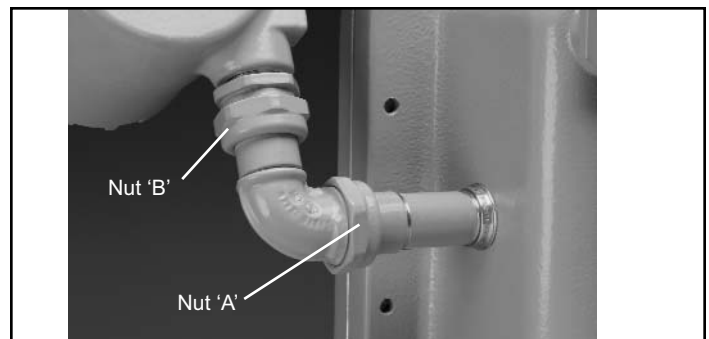

Figure 2. EVLA Lighting Fixture
5. Adjust EVLA12 emergency light(s) for the desired direction of illumination and lock into position using 1-5/8" open-ended wrench and torquing to 58 lb.-ft. See Figure 2.